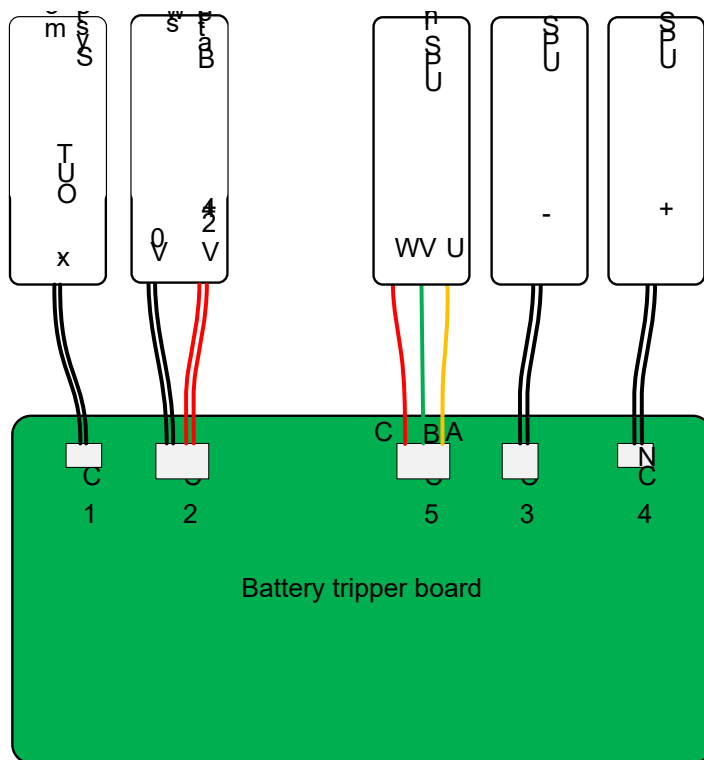
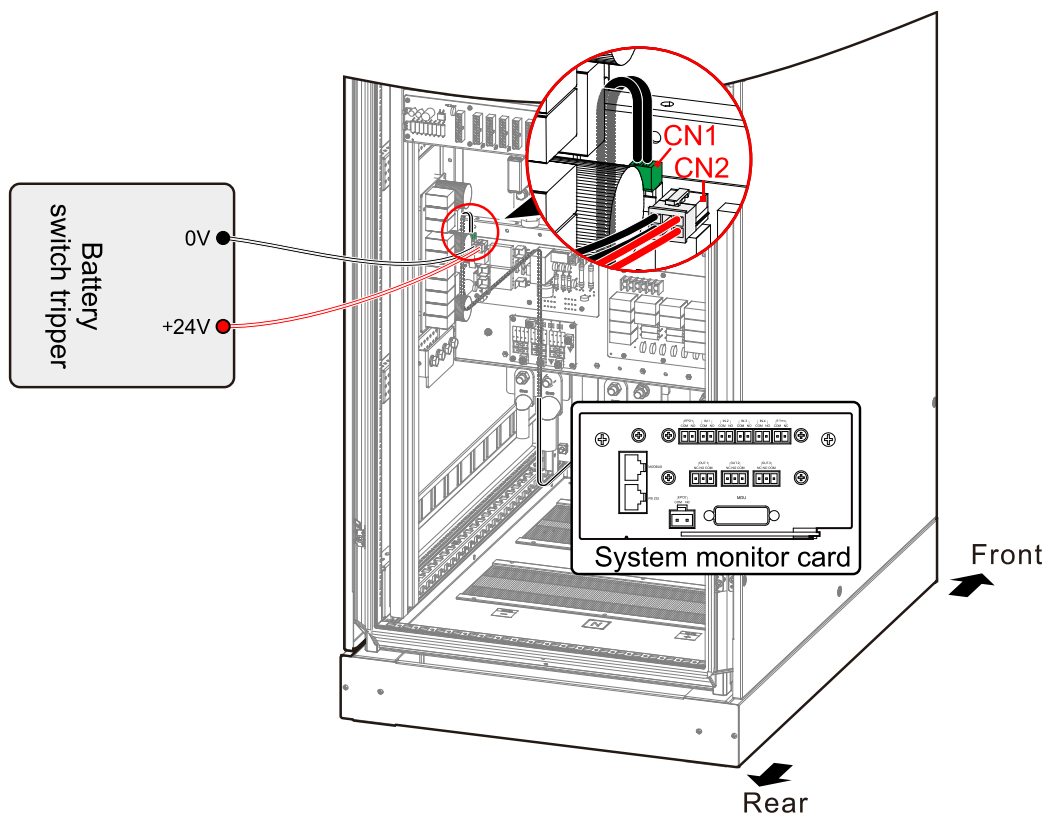
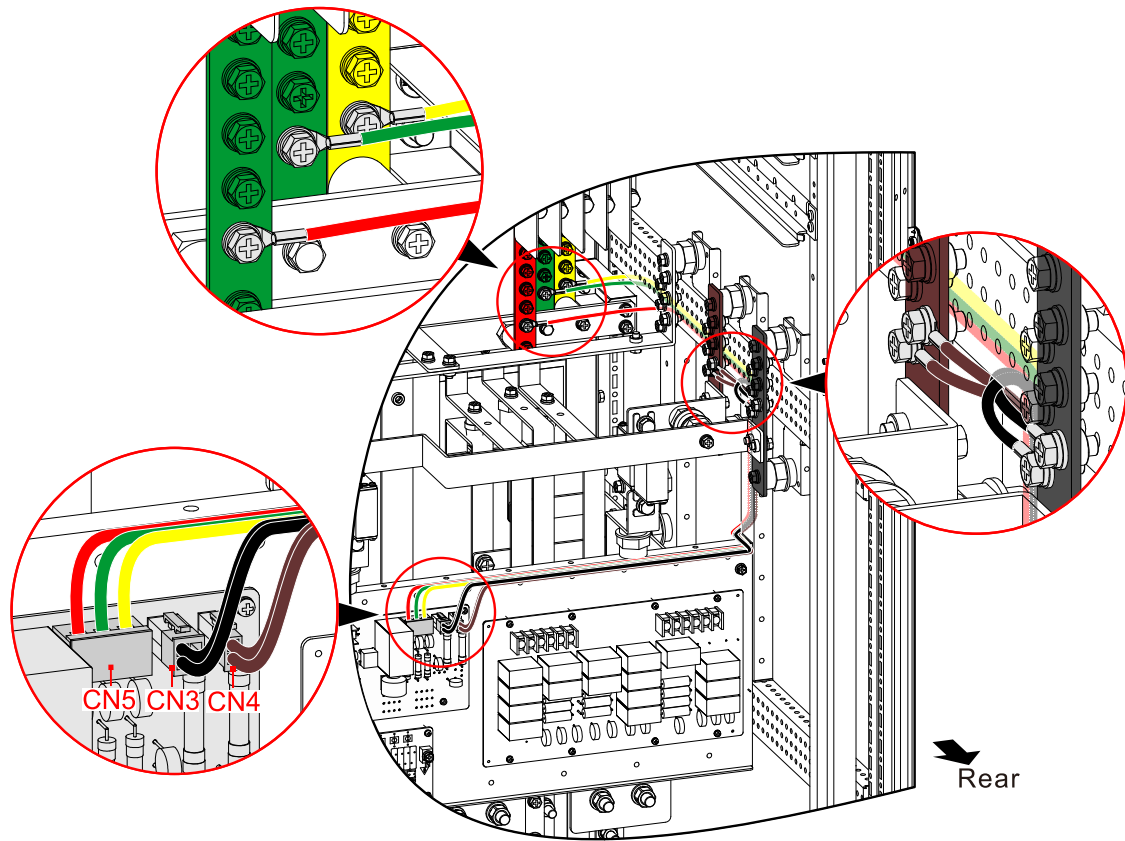

Figure3-25 Battery tripper board connection
Figure3-26 CN1, CN2 terminal connection
Figure3-27 CN3、CN4、CN5 terminal connection
- Step 2 Connect the CN1~CN5 of PCB board to the copper bars of UPS and user, the wiring is as shown in Figure3-25, Figure3-26, Figure3-27.